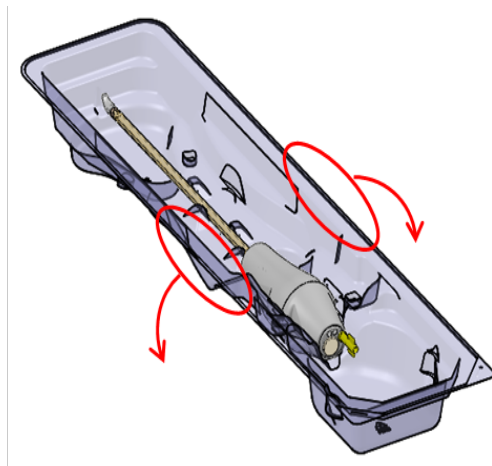

Figure 20: Releasing the UA from the packaging tray
1. **MRI Technologist**: Using the fluid circuit (FC) tab of the PSIB display (or the FC information box of the Setup workspace in TDC), flow water into the UA by clicking **ON**.
5. **MRI Technologist**: While holding the UA packaging tray by the long edges of its perimeter, flex the tray to release the UA from its snap features (*Figure 20*).